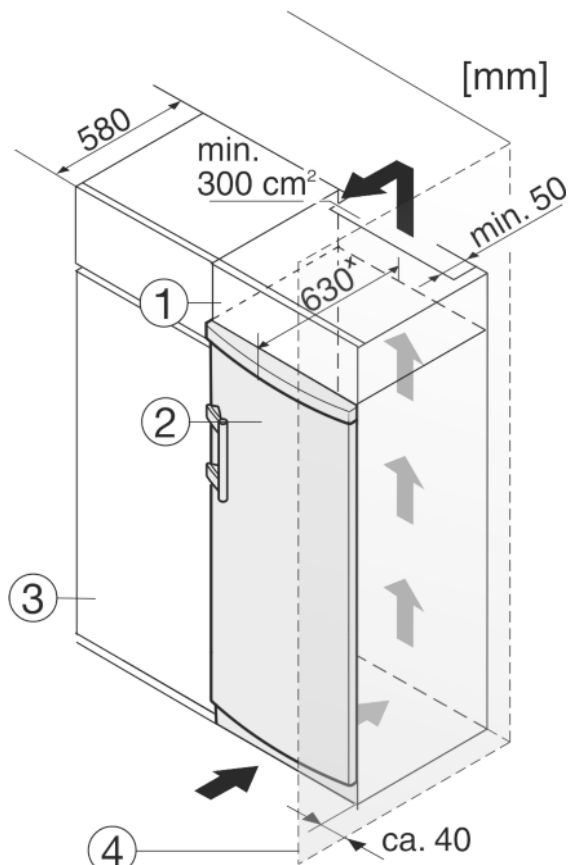

Fig. 10
The appliance can be built into kitchen units. A top cupboard Fig. 10 (2) can be added above the appliance in order to bring the appliance Fig. 10 (1) up to the height of the fitted kitchen units.
When installing with kitchen units (max. depth 580 mm), the appliance can be positioned directly next to the kitchen cabinet Fig. 10 (3). The appliance will project by 34 mm \* at the sides and 50 mm \* in the centre of the appliance in relation to the kitchen cabinet front.
If the appliance is installed with the hinges next to a wall Fig. 10 (4), the distance between appliance and wall has to be at least 40 mm. This corresponds to the projection of the handle when the door is open.